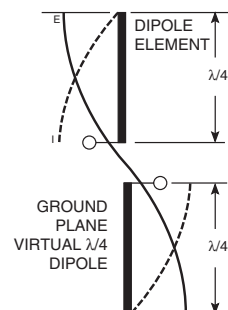

Figure 59: Dipole Antenna
4. In many antenna designs, particularly $\frac{1}{4}$ -wave whips, the ground plane acts as a counterpoise, forming, in essence, a $\frac{1}{2}$ -wave dipole (Figure 59). For this reason, adequate ground plane area is essential. The ground plane can be a metal case or ground-fill areas on a circuit board. Ideally, it should have a surface area less than or equal to the overall length of the $\frac{1}{4}$ -wave radiating element. This is often not practical due to size and configuration constraints. In these instances, a designer must make the best use of the area available to create as much ground